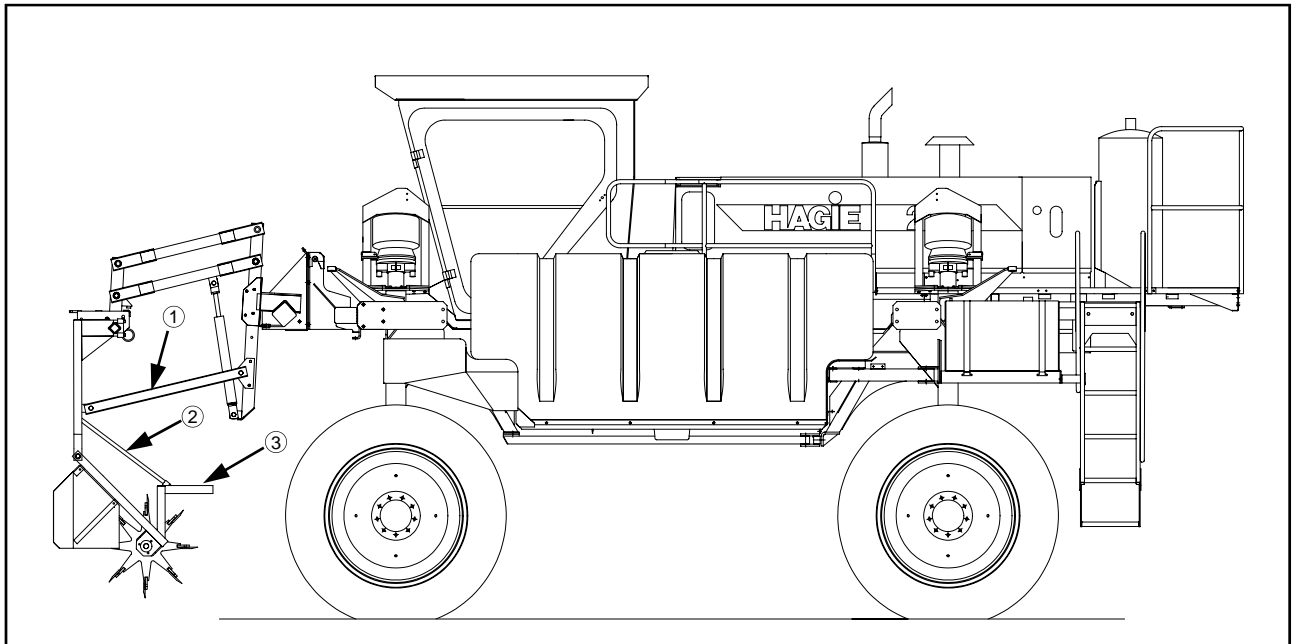

FIG 3.32
4. Attach the lower stabilizer arm to the hoist column and male corn chopper (fig. 3.32, item 1).
5. Adjust the support rod so there is approximately two inches of travel on each end (fig. 3.32, item 2).
6. Add weights (fig. 3.32, item 3).